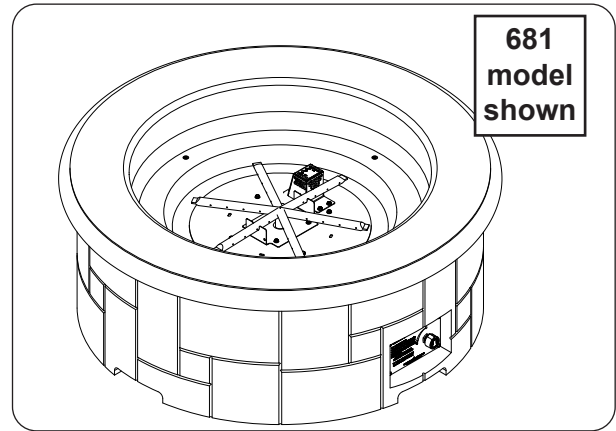

Fig. 28-1 Place unit
1. **CAREFULLY** place unit in an appropriate location (see Fig. 28-1, and refer back to the LOCATION section if needed).